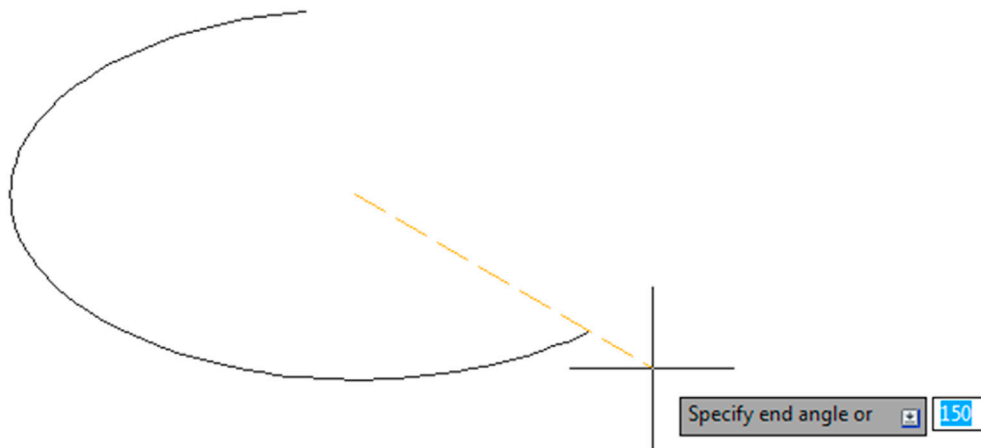

FIGURE 2.21 Ellipse, arc variation.
Step 4. Click anywhere again to complete the ellipse. You can also specify a rotation angle along the major axis (the line between clicks 1 and 2). This would be as if the ellipse were rotating away (or toward) you. For a variation on this, try the Arc submenu of the ellipse, which is essentially similar in execution until the final step, when you trace how much of the ellipse you want to see, as shown in Fig. 2.21.